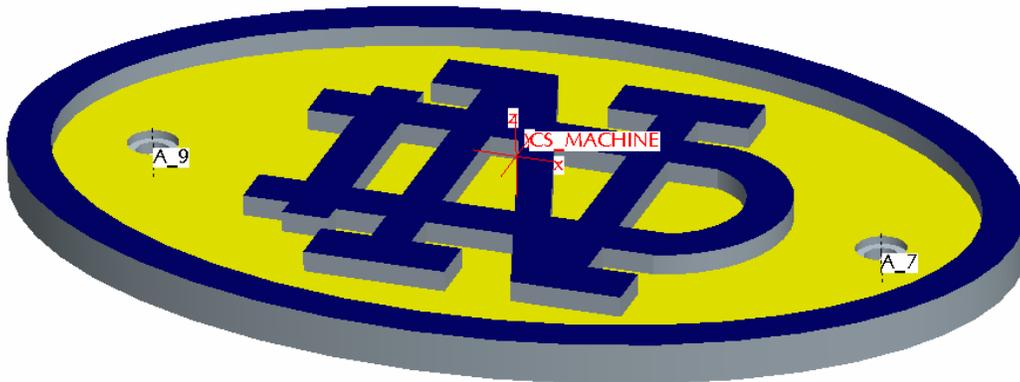
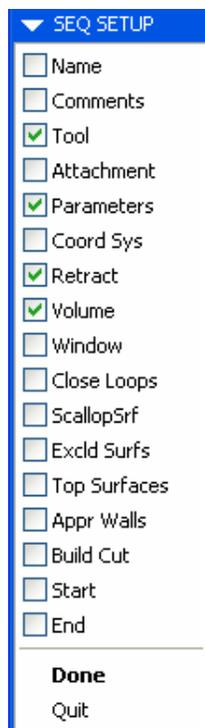

Figure 4: Coordinate System
Figure 7a: Sequence Setup Parameters
- Step 6:** Select the coordinate system, **CS_Machine**, on the model. (Figure 4)
Step 12: Check the Machining Parameters shown in Figure 7a:
Step 13: Select **DONE** on the Sequence Setup menu (Figure 7a).
Observe Figure 7a. Up to this point of the tutorial you have defined the tool and the tool's parameters. The next several steps will define the retract depth of the tool. The retract depth will be defined .75 inches along the Z axis. **Note:** From the previous definition of the machine coordinate system, the Z-Axis points away from the top surface of the part (Figure 4).